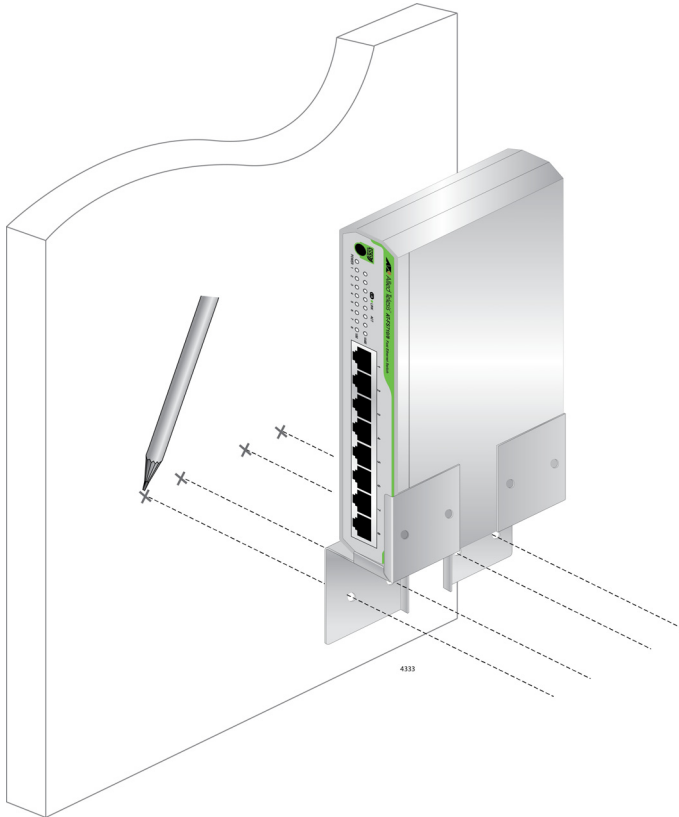

Figure 19. Marking the Screw Hole Locations
4. Have another person hold the switch with the brackets at the wall location where the switch is to be installed. Use a pencil to mark the wall for the locations of the four holes in the brackets. See Figure 19.
Figure 19 shows the front panel oriented toward the left side. However, the switch can be mounted on the wall with the front panel facing left, right, up or down.